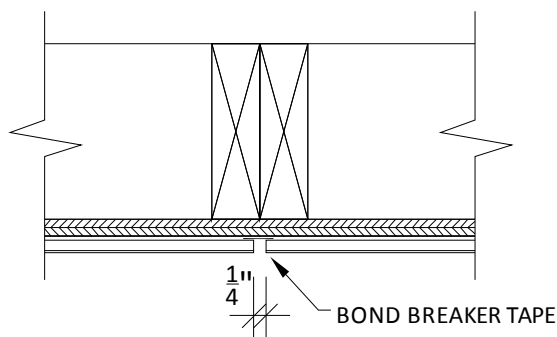

Fig 4 – Vertical Caulk Joint w/ Bond Breaker Tape
1. Continue installation with the intermediate panels filling the space in-between corner panels. Special care should be taken with the planning and the installation of these panels. To provide the best overall look, measure the distance between corner panels and decide if the final panel install will provide the look required. Ensure that you have provided the correct spacing between panel edges. See fig. 4